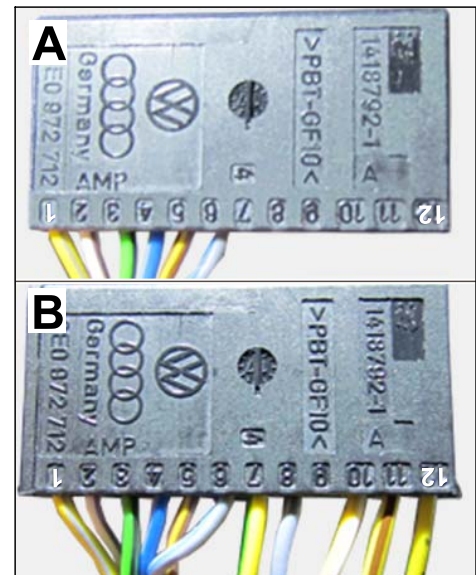

Figure 23
- 3.5.3 Unpin lines on the connector (12-pin) on vehicle side from chambers 1–6 and pin them at the same position in the new connector (12-pin) (⇒ *Figure 23 -B-*).